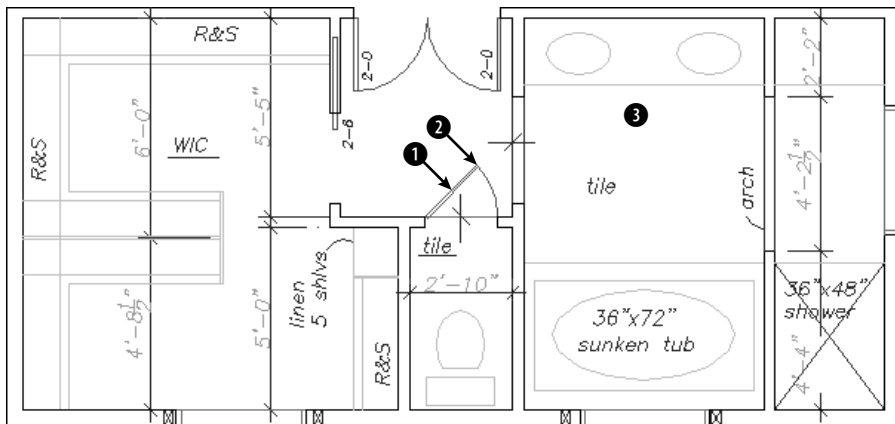

Figure 13-5: The master bathroom.
2. Save the file as `ab13-01.dwg` in your AutoCAD Bible folder. This is a master-bathroom plan drawing, as shown in Figure 13-5. Make sure that OSNAP is on. Set running object snaps for endpoint, midpoint, and intersection.
snap to pick 1 in Figure 13-5.
Specify middle point of text: *Pick 3 in Figure 13-5. (This point doesn't have to be exact.)*